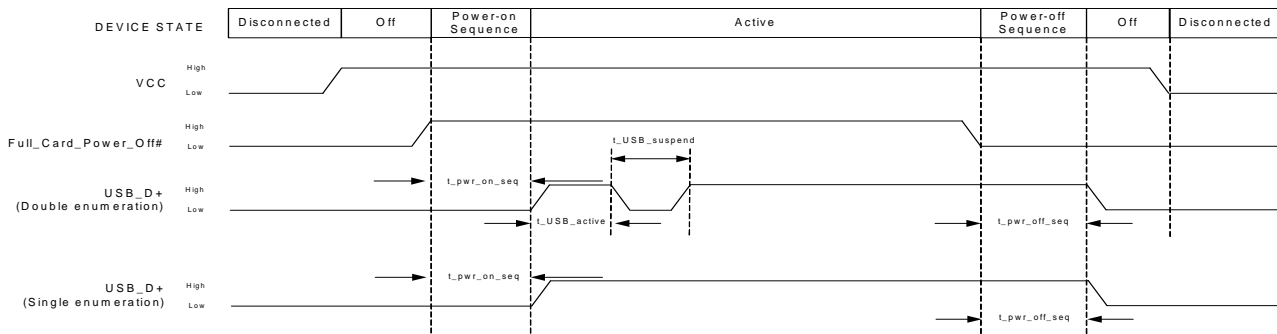

Figure 5-2: Signal timing (Full\_Card\_Power\_Off#, and USB enumeration)
Figure 5-2 describes the timing sequence for powering the module on and off.
- Double enumeration—As shown in Figure 5-2: